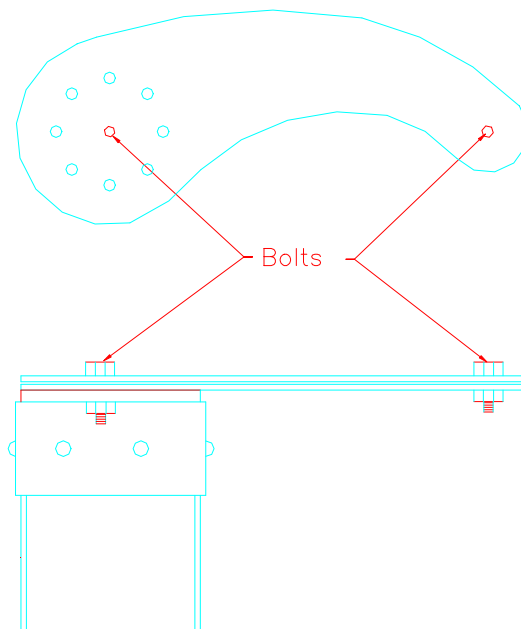

Figure 8.28.2
3) With suitable 1/4" hardware, temporarily bolt another control horn (CC-43) onto the root control horn. Figure 8.28.2.